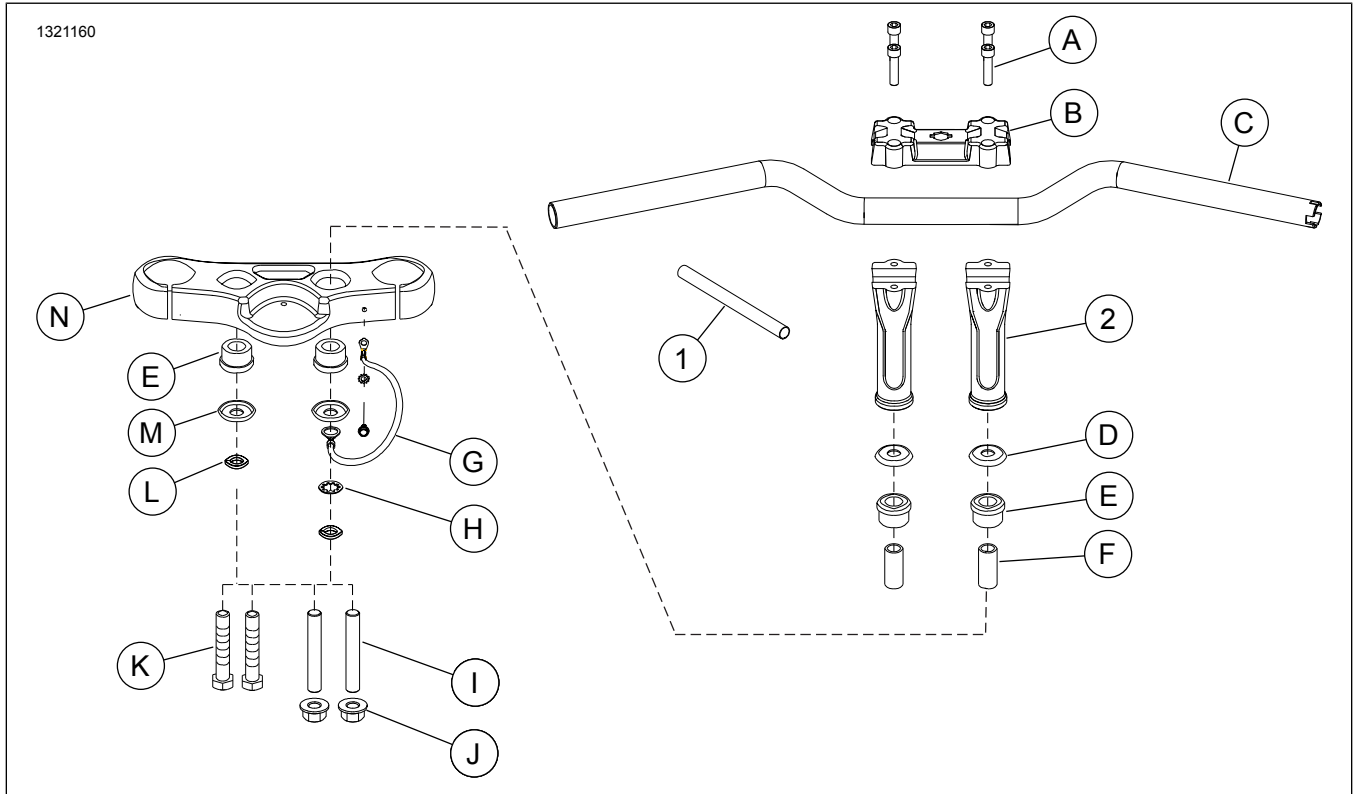

Figure 1. Service Parts List: Tall Riser Kits
- a. Align components as shown in Figure 1.
- b. Install riser screws (K). Do not tighten screws at this time.
- a. See Figure 1. Loosely install riser clamp (B) with Bar & Shield facing rider onto handlebar and risers.
5. See Figure 1. Apply threadlocker to riser screws.
- a. Remove one riser screw (K).